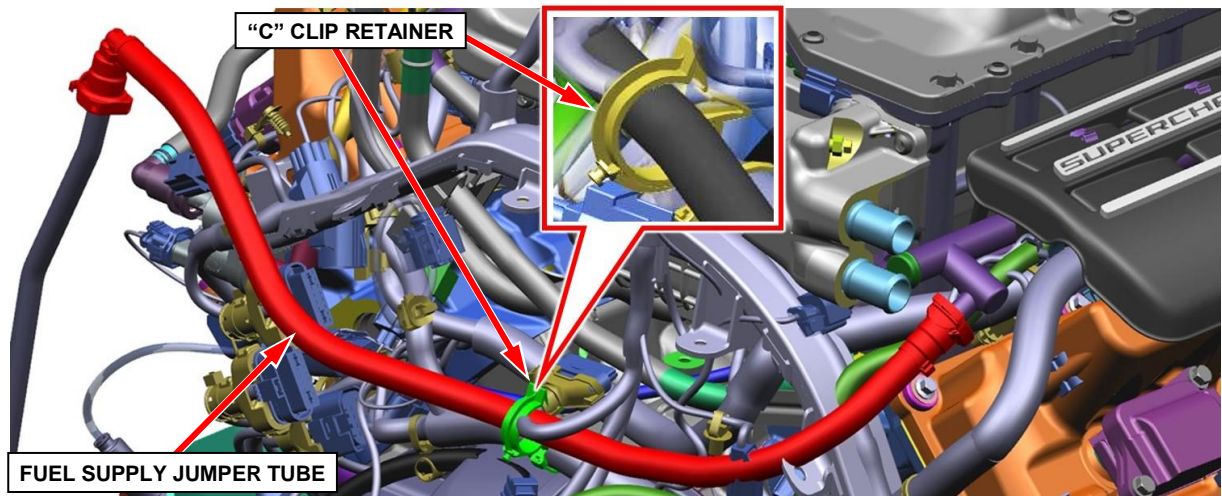

Figure 12 – Fuel Supply Jumper Tube “C” Clip Retainer
16. Release the fuel supply jumper tube from the “C” clip retainer at the back of the engine (Figure 12).
19. Install the fuel supply jumper tube into the “C” clip retainer at the back of the engine (Figure 12).